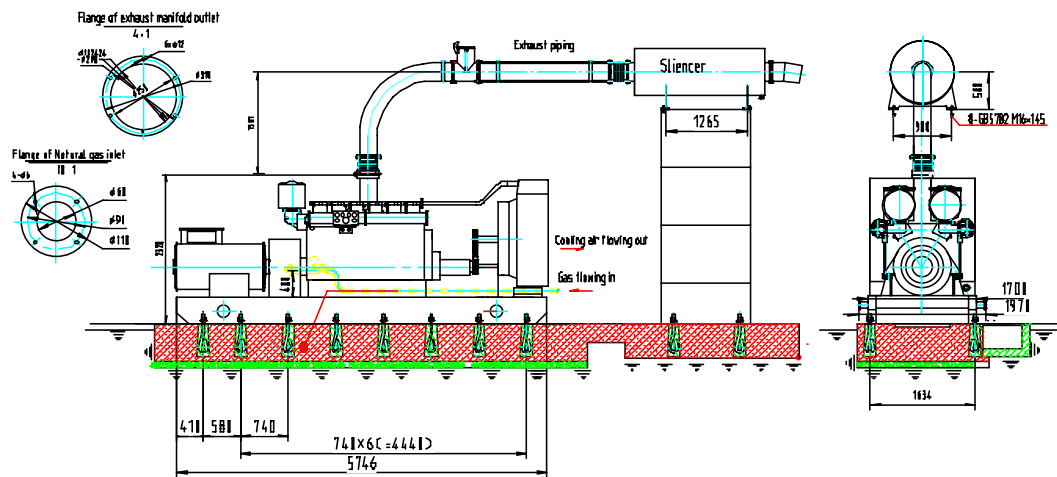

Fig 7-1 Overall and Installation Dimensions of 400GF1-PT generator set
7.4.2.1 Installation of 400GF1-PT generator set is shown in fig 7-1.